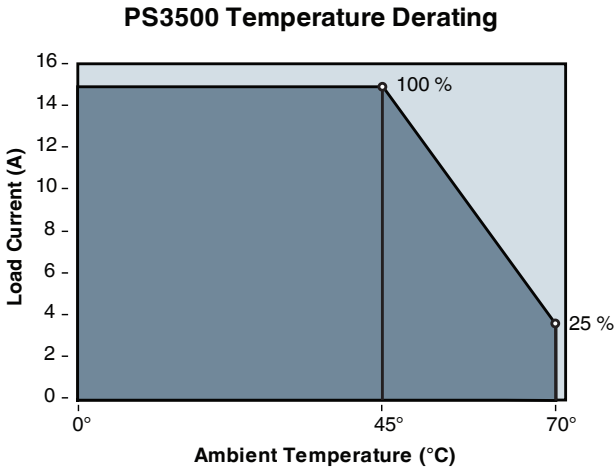

Figure 3. Recommended load current per module vs. operating temperature
- **Use convection cooling** when the supply load is typically in the lower part of the shaded region in Figure 3 and free air circulation is ensured.
- **Use forced cooling** when the supply load is in the upper part of the shaded region in Figure 3 for extended periods of time or when a very high system reliability is required.
6. Ambient ratings for operation are -25...+45 °C, derated 45...70 °C at 0.45A per °C above 45 °C. See Figure 3, temperature curve.